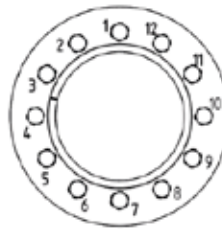

Fig. 5.10.5
- tighten the screws by a dynamometric wrench – calibrated at a value approximately higher than 5% compared to the one foreseen in table 5.10.1 – the screws of shrink disc must be gradually and uniformly tightened, with continuous sequence (not diagonally!) see fig. 5.10.5 and during several phases (approx. 1/4 rotation each time) until the 1/4 rotation is not possible anymore;